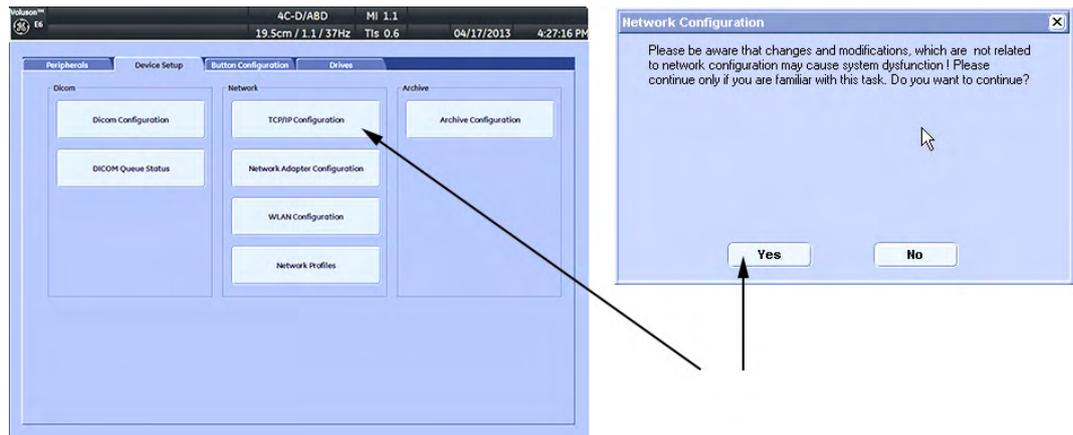

Figure 3-65 TCP/IP Configuration
5. Click the **WLAN Configuration** button; see Figure 3-65 on page 3-70.
3. Click the **WLAN Configuration** button; see Figure 3-65 on page 3-70.
3. Click the **WLAN Configuration** button; see *Figure 3-65 on page 3-70*.